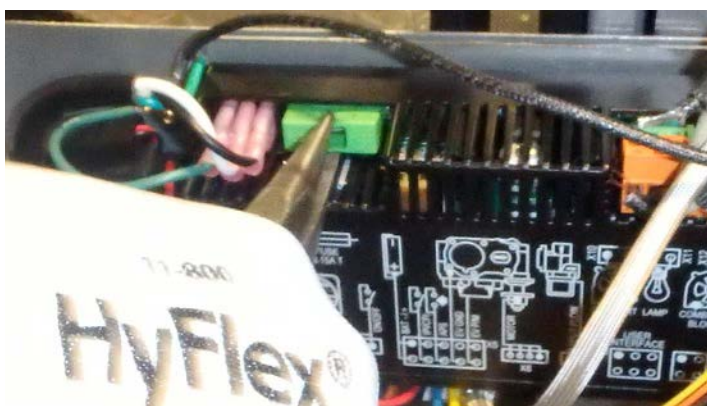

Figure 20.7.02:
5. Use pliers to gently pry the fuse from the control board. See **Figure 20.7.02**.